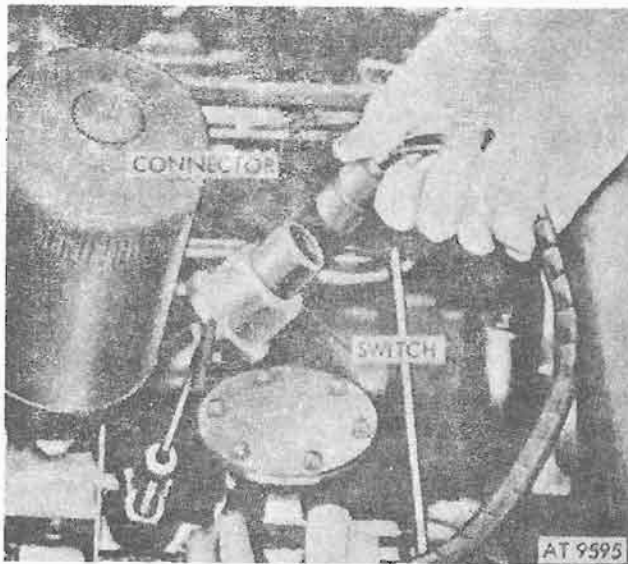

Figure 4-36. Fuel pump safety switch (M151, M151A1, M151A1C and M718 vehicles).
(29) Pull electrical connector (fig. 4-36) from fuel pump safety switch (oil pressure safety switch).